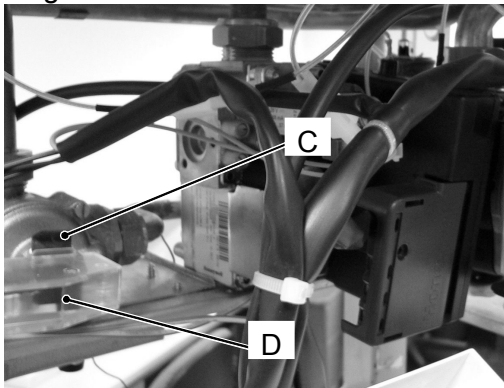

Figure 4
- 2) Remove the fork C (Figure 4).
- 3) Open the box D (Figure 4) and disconnect the switch.
- 2) Remove the fork C that holds the micro-switch housing D (Figure 4).